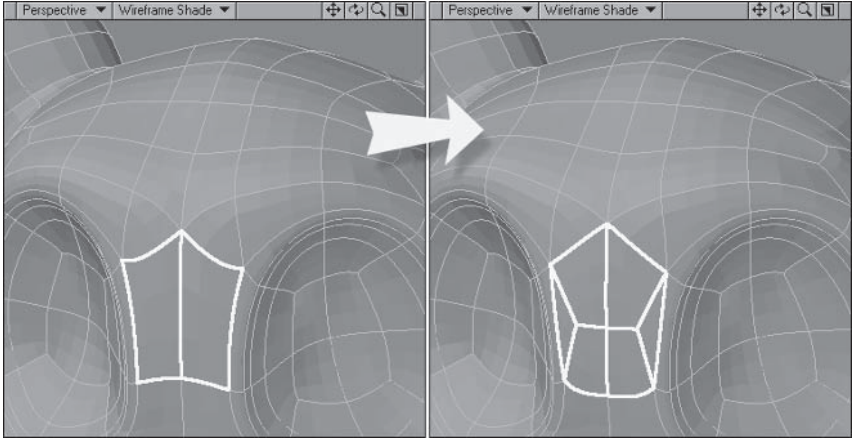

Figure 5.3-85. Cutting the geometry to create better polygon flow.
7. Select the two polygons between the eyes shown in Figure 5.3-85 and **Cut**. In the Cut options panel, uncheck **Select Outer Edges**, change the division value to **0.5**, and click **Continue**.